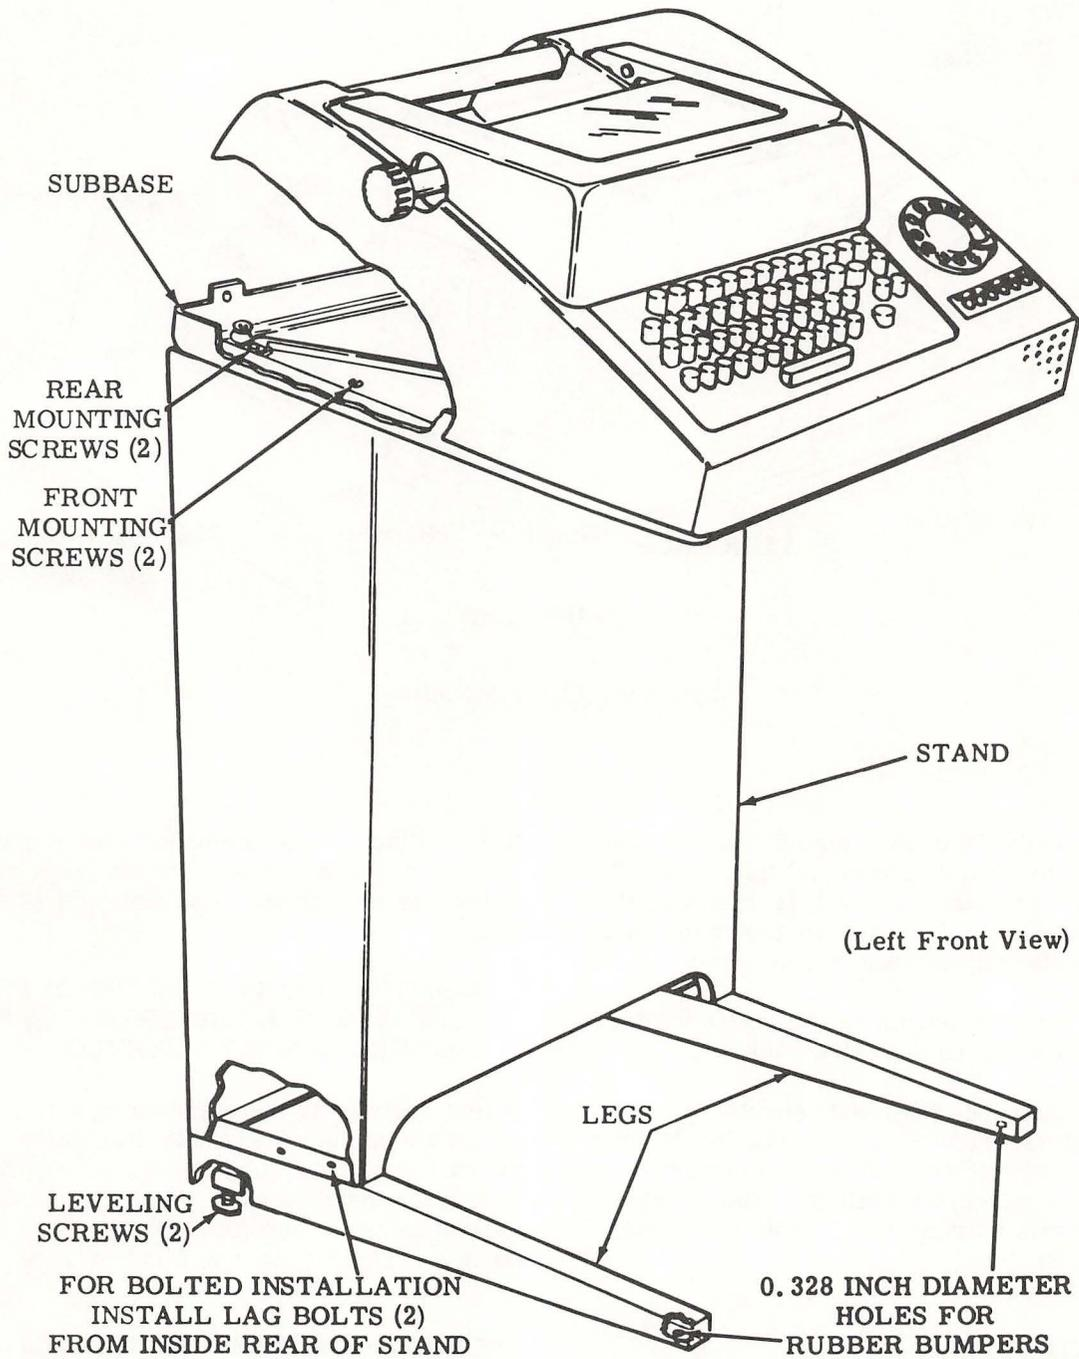

Figure 3 - Stand Leveling and Anchoring and Assembly of Subbase with Typing Unit to Stand
2.01 If the teletypewriter set is to be bolted to the floor, remove the front screw in each leg of the stand (Figure 3).
Mount subbase to the stand using four TP181237 screws and four TP125928 flat washers in the hardware bag (Figure 3); when supplied, use 10-32 hex head screws with flat washers and lockwashers in the two front tapped subbase bosses. Tighten the mounting screws.
2.18 Figure 3 illustrates the facilities for leveling and anchoring the stand.